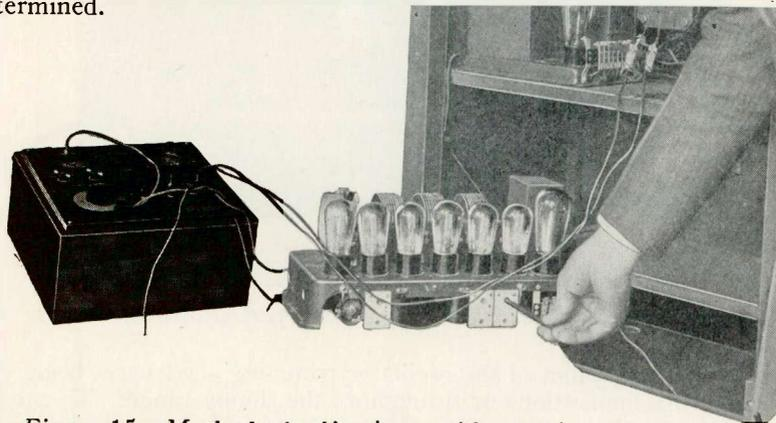

Figure 15—Method of adjusting oscillator trimming condensers
- (c) Now adjust the oscillator trimming condenser on the right, facing rear of the receiver (Figure 15) with the long, thin, non-metallic screwdriver until a maximum deflection is obtained in the milliammeter. The station selector should be moved slightly as adjustment is being made in order to keep correct tuning position, which is indicated by maximum deflection.